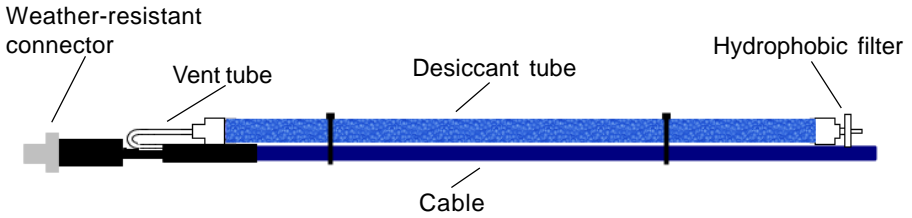

Figure 5: Desiccant Tube
- If the transducer is to be left in the well for a long-term monitoring application and the connector end is not in a dry, thermally-stable environment, a desiccant tube must be installed in line with the cable to prevent condensation in the cable vent tube. (See figure 5.) Water in the vent tube will cause inaccurate readings and, in time, will work its way into the transducer and damage it.
- **Proper grounding is very important!** INW recommends the following: (1) the sensor cable shield (the wrapped shield inside the cable) be attached to the power ground on the datalogger and (2) the grounding lug be connected via a 12 AWG or larger wire, to a grounding rod driven into the earth. It is also recommended that if you are using an external power supply to power the datalogger that it be tied to the same earth ground. (See also: Grounding Issues in the Trouble Shooting section of this manual.)